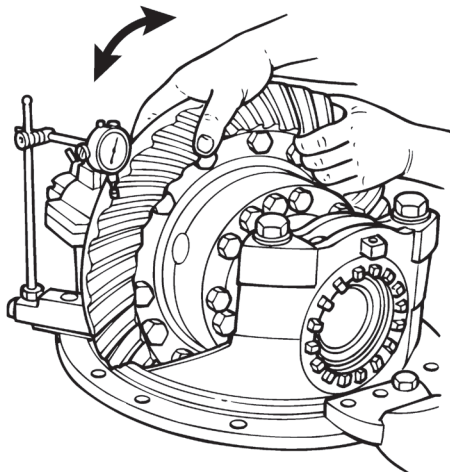

Figure 5.44
1. Attach a dial indicator onto the differential mounting flange. Figure 5.44.